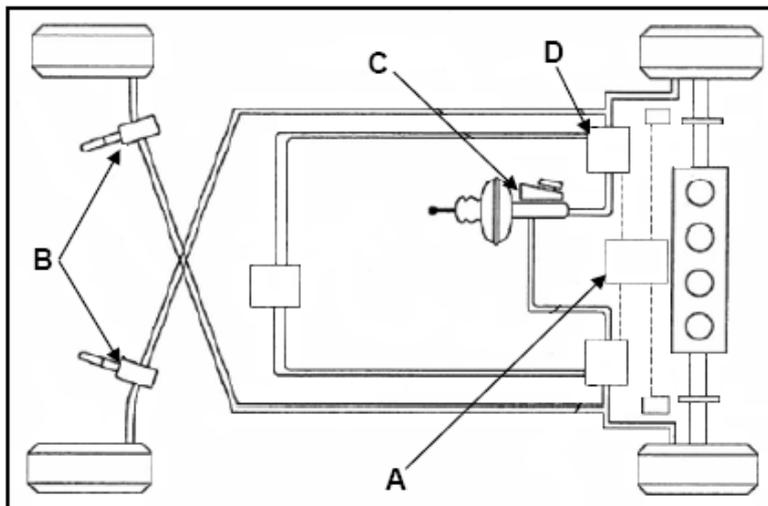

FIGURE 11.5
11.5 FIGURE 11.5 below shows an ABS system in a motor vehicle. Label A–D.